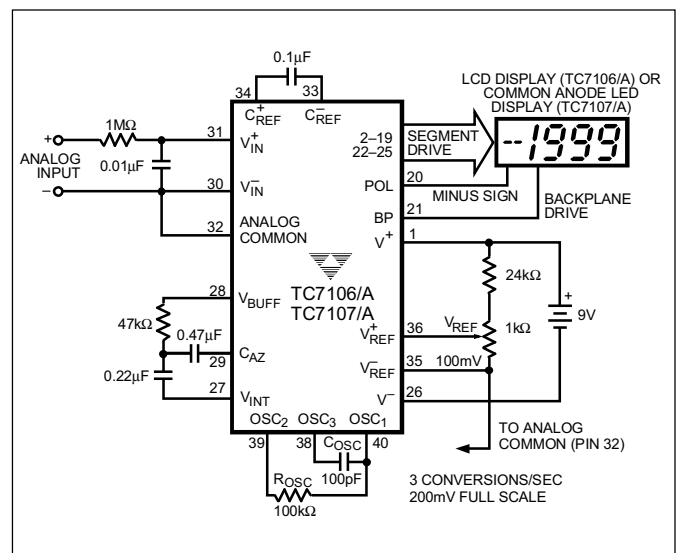

Figure 1. TC7106/A/7/A Typical Operating Circuit
3. Unless otherwise noted, specifications apply to both the TC7106/A and TC7107/A at T_A = 25°C, f_{CLK} = 48 kHz. Parts are tested in the circuit of Figure 1.